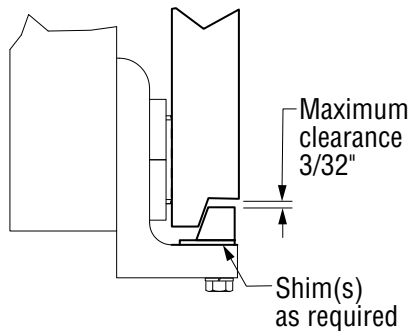

Figure 3-4, Lower Hook Clearance
9. Install the bolt-on lower hooks. Inspect clearance to the carriage on lower hooks. Adjust the lower hooks for a maximum clearance of 3/32" (see Figure 3-4). Tighten the bolts to **40-50 ft-lbs**.